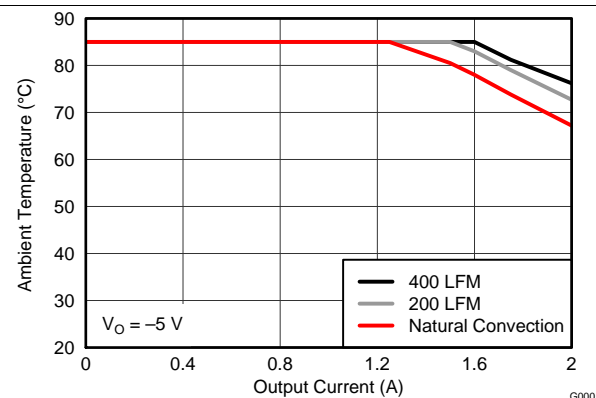
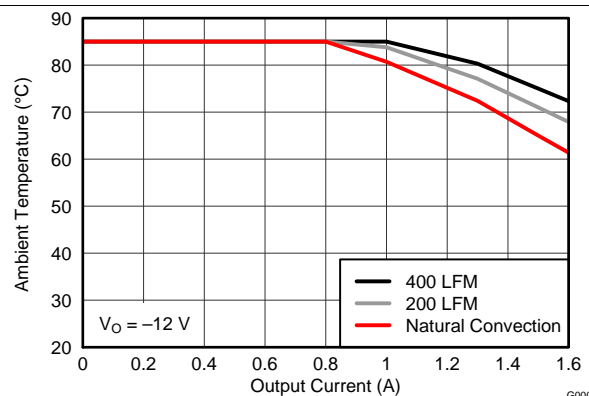
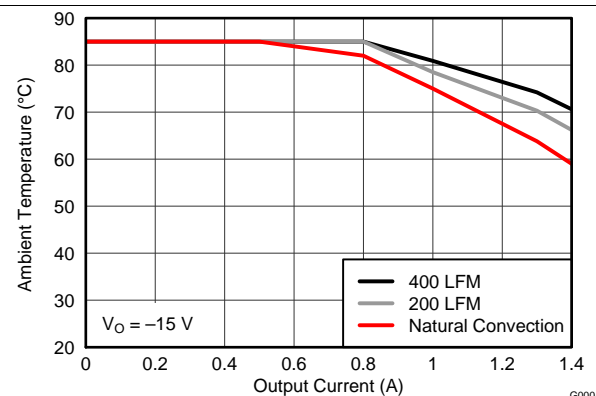

Figure 16. Safe Operating Area
Figure 17. Safe Operating Area
Figure 18. Safe Operating Area
- (3) The temperature derating curves represent the conditions at which internal components are at or below the manufacturer's maximum operating temperatures. Derating limits apply to devices soldered directly to a 100 mm × 100 mm, 4-layer, double-sided PCB with 1 oz. copper. Applies to Figure 16, Figure 17, and Figure 18.